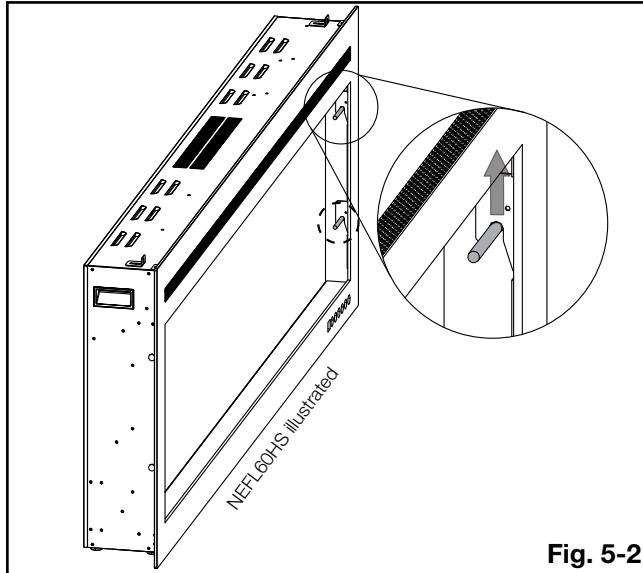

Fig. 5-2
- Carefully lift the front glass up and away from the appliance (**Fig. 5-2 and 5-3**). Place it face down on a soft, non-abrasive surface.